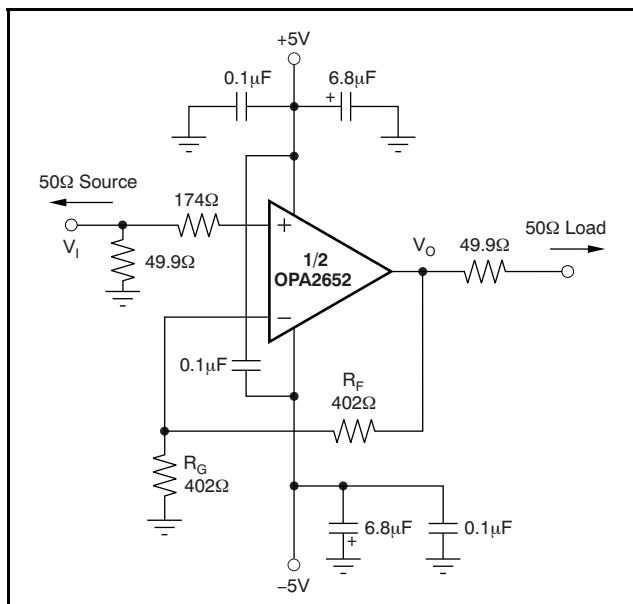
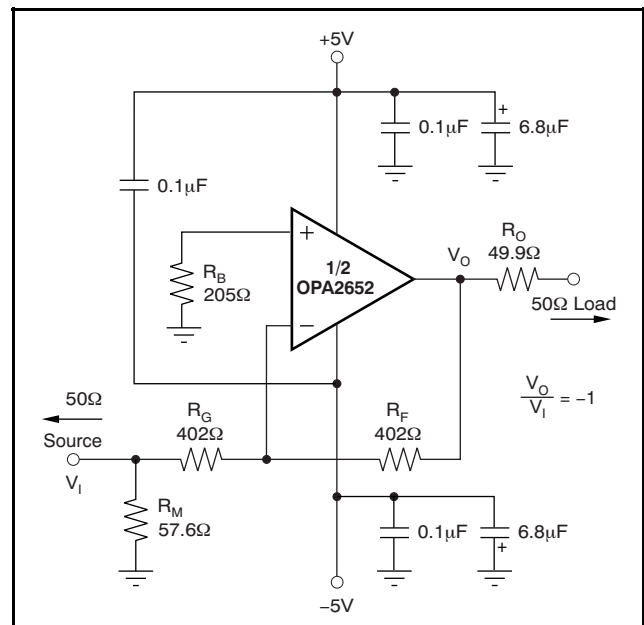

Figure 28. DC-Coupled, $G = +2$, Bipolar Supply, Specification and Test Circuit
Figure 29. DC-Coupled, $G = -1$, Bipolar Supply, Specification and Test Circuit
At $T_A = +25^\circ C$, $G = +2$, $R_F = 402\Omega$, and $R_L = 100\Omega$, unless otherwise noted. See Figure 28 and Figure 29 for AC performance only.
At $T_A = +25^\circ C$, $G = +2$, $R_F = 402\Omega$, and $R_L = 100\Omega$, unless otherwise noted. See Figure 28 and Figure 29.
Figure 28 shows the DC-coupled, gain of +2, dual power-supply circuit configuration used as the basis of the $\pm 5\text{V}$ specifications and typical characteristics. This configuration is for one channel. The other channel is connected similarly. For test purposes, the input impedance is set to 50Ω with a resistor to ground and the output impedance is set to 50Ω with a series output resistor.
Voltage swings reported in the specifications are taken directly at the input and output pins, while output powers (dBm) are at the matched 50Ω load. For the circuit of Figure 28, the total effective load will be $100\Omega \parallel 804\Omega$. Two optional components are included in Figure 28.
Figure 29 shows the DC-coupled, gain of -1 , bipolar supply circuit configuration that is the basis of the specifications and typical characteristics at $G = -1$. The input impedance matching resistor (57.6Ω) used for testing gives a 50Ω input load. A resistor (205Ω) connects the noninverting input to ground. This configuration provides the DC source resistance matching to cancel outputs errors arising from input bias current.
A good rule of thumb is to target the parallel combination of R_F and R_G (see Figure 28) to be less than approximately 300Ω. The combined impedance $R_F \parallel R_G$ interacts with the inverting input capacitance, placing an additional pole in the feedback network, and thus a zero in the forward response. Assuming a 2pF total parasitic on the inverting node, holding $R_F \parallel R_G < 300\Omega$ keeps this pole above 250MHz. By itself, this constraint implies that the feedback resistor R_F can increase to several kΩ at high gains. This increase is acceptable as long as the pole formed by R_F and any parasitic capacitance appearing in parallel is kept out of the frequency range of interest.
Voltage feedback op amps exhibit decreasing closed-loop bandwidth as the signal gain is increased. In theory, this relationship is described by the Gain Bandwidth Product (GBP) shown in the specifications. Ideally, dividing GBP by the noninverting signal gain (also called the Noise Gain, or NG) predicts the closed-loop bandwidth. In practice, this prediction only holds true when the phase margin approaches 90°, as it does in high gain configurations. At low gains (increased feedback factor), most amplifiers exhibit a wider bandwidth and lower phase margin. The OPA2652 is compensated to give a flat response in a noninverting gain of 1 (see Figure 28). This configuration results in a typical gain of +1 bandwidth of 700MHz, far exceeding that predicted by dividing the 200MHz GBP by $NG = 1$. Increasing the gain
Because the OPA2652 is a general-purpose, wideband voltage feedback op amp, all of the familiar op amp application circuits are available to the designer. Inverting operation is one of the more common requirements and offers several performance benefits. Figure 29 shows a typical inverting configuration.
In the inverting configuration, three key design considerations must be noted. First, the gain resistor (R_G) becomes part of the signal channel input impedance. If input impedance matching is desired (which is beneficial whenever the signal is coupled through a cable, twisted pair, long PCB trace or other transmission line conductor), R_G may be set equal to the required termination value and R_F adjusted to give the desired gain. This approach is the simplest, and results in optimum bandwidth and noise performance. However, at low inverting gains, the resulting feedback resistor value can present a significant load to the amplifier output. For an inverting gain of -1 , setting R_G to 50Ω for input matching eliminates the need for R_M but requires a 50Ω feedback resistor. This configuration has the interesting advantage that the noise gain becomes equal to 2 for a 50Ω source impedance—the same as the noninverting circuits considered above. However, the amplifier output now sees the 50Ω feedback resistor in parallel with the external load. In general, the feedback resistor should be limited to the 200Ω to 1.5kΩ range. In this case, it is preferable to increase both the R_F and R_G values as shown in Figure 29, and then achieve the input matching impedance with a third resistor (R_M) to ground. The total input impedance becomes the parallel combination of R_G and R_M .
The second major consideration, touched on in the previous paragraph, is that the signal source impedance becomes part of the noise gain equation and influences the bandwidth. For the example in Figure 29, the R_M value combines in parallel with the external 50Ω source impedance, yielding an effective driving impedance of $50\Omega \parallel 57.6\Omega = 26.8\Omega$. This impedance is added in series with R_G for calculating the noise gain (NG). The resulting NG is 1.94 for Figure 29 (an ideal source would cause $NG = 2.00$).
error, as a result of the input bias currents, is reduced to (Input Offset Current) • R_F . If the 50 Ω source impedance is DC-coupled in Figure 29, the total resistance to ground on the inverting input will be 429 Ω . Combining this in parallel with the feedback resistor gives 208 Ω , which is close to the $R_B = 205\Omega$ used in Figure 29. To reduce the additional high-frequency noise introduced by this resistor, it is sometimes bypassed with a capacitor. As long as $R_B < 300\Omega$, the capacitor is not required since its total noise contribution is much less than that of the op amp input noise voltage.
The OPA2652 provides good distortion performance into a 100 Ω load on $\pm 5V$ supplies. Increasing the load impedance improves distortion directly. Remember that the total load includes the feedback network; in the noninverting configuration (Figure 28), this is sum of $R_F + R_G$, while in the inverting configuration, it is only R_F . Also, providing an additional supply decoupling capacitor (0.1 μF) between the supply pins (for bipolar operation) improves the 2nd-order distortion slightly (3dB to 6dB).
Evaluating these two equations for the OPA2652 circuit and component values shown in Figure 28 gives a total output spot noise voltage of $17\text{nV}/\sqrt{\text{Hz}}$ and a total equivalent input spot noise voltage of $8.4\text{nV}/\sqrt{\text{Hz}}$. This noise includes the noise added by the bias current cancellation resistor (205Ω) on the noninverting input. This total input-referred spot noise voltage is only slightly higher than the $8\text{nV}/\sqrt{\text{Hz}}$ specification for the op amp voltage noise alone. This result will be the case as long as the impedances appearing at each op amp input are limited to the previously recommend maximum value of 300Ω . Keeping both $(R_F \parallel R_G)$ and the noninverting input source impedance less than 300Ω satisfies both noise and frequency response flatness considerations. Since the resistor-induced noise is relatively negligible, additional capacitive decoupling across the bias current cancellation resistor (R_B) for the inverting op amp configuration of Figure 29 is not required.
The balanced input stage of a wideband voltage feedback op amp allows good output DC accuracy in a wide variety of applications. Although the high-speed input stage does require relatively high input bias current (typically $4\mu\text{A}$ out of each input terminal), the close matching between them may be used to significantly reduce the output DC error caused by this current. This reduction is done by matching the DC source resistances appearing at the two inputs. This matching reduces the output DC error resulting from the input bias currents to the offset current times the feedback resistor. Evaluating the configuration of Figure 28, using worst-case $+25^\circ\text{C}$ input offset voltage and current specifications, gives a worst-case output offset voltage equal to:
As an example, compute the maximum T_J using an OPA2652E (SOT23-8 package) in the circuit of Figure 28 operating at the maximum specified ambient temperature of $+85^{\circ}\text{C}$ and with both outputs driving $2.5V_{DC}$ into a grounded 100Ω load.